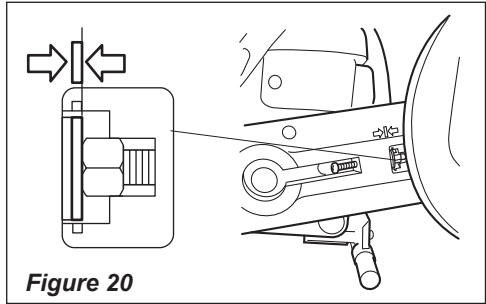

Figure 20
6. Adjust the tension screw until the tension indicator is in the middle of the scale. See Figure 20.